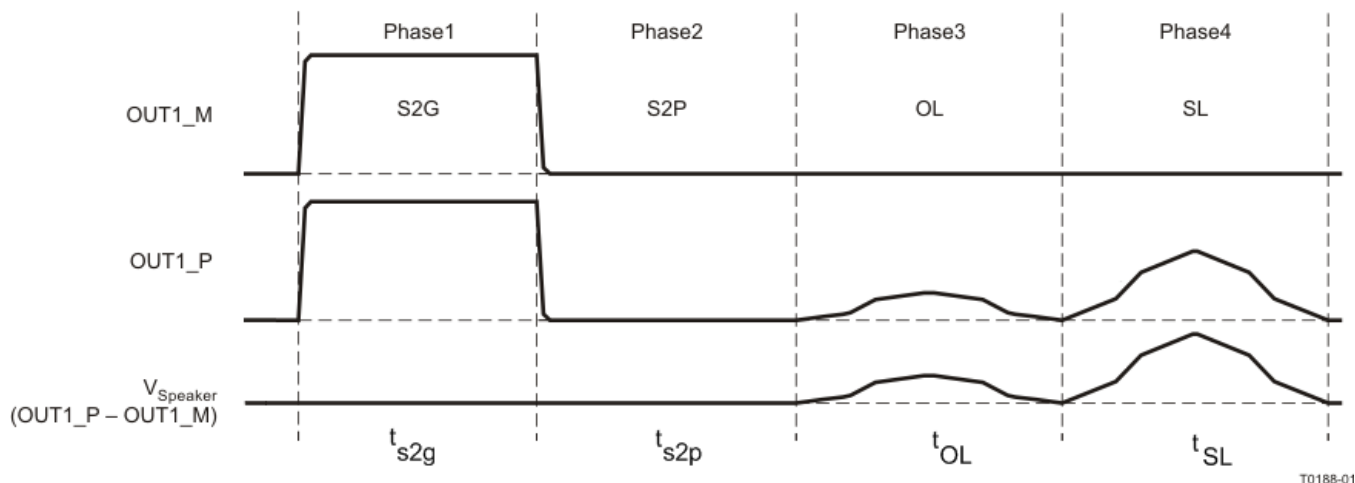
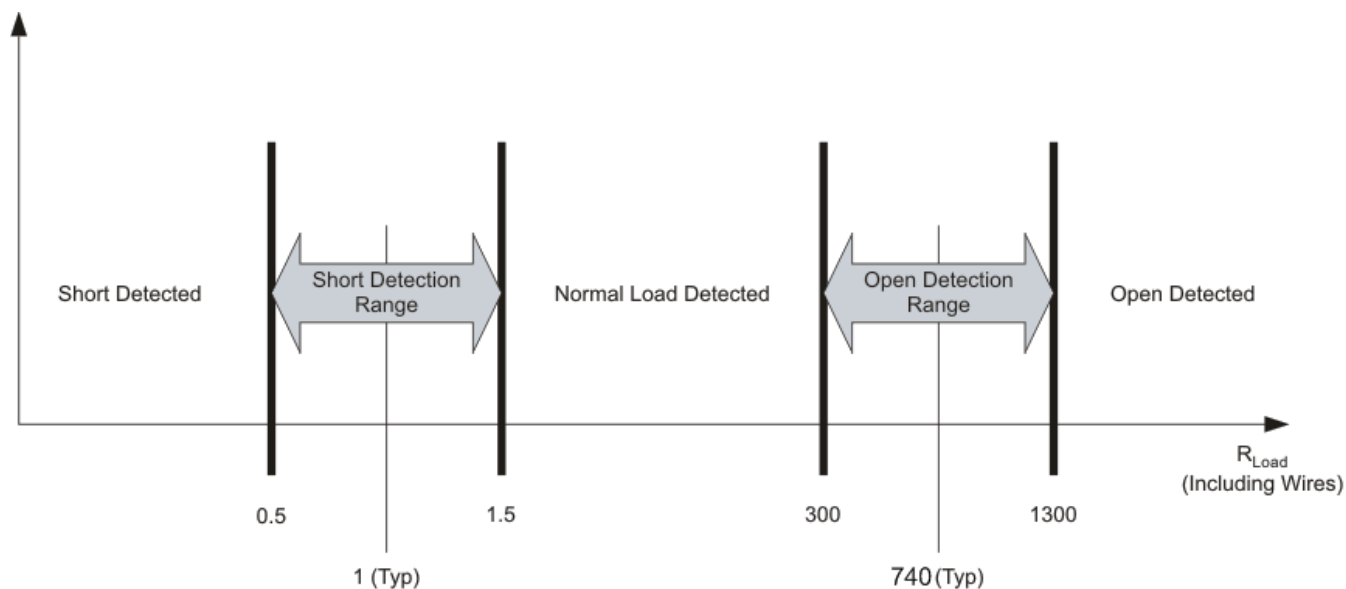

Figure 9. Load Diagnostics Sequence of Events
Figure 10. Open- and Shorted-Load Detection
Output Short and Open Diagnostics—The device contains circuitry designed to detect shorts and open conditions on the outputs. There are four phases of test during load diagnostics and two levels of test. All four phases are tested on each channel, all four channels at the same time. The diagnostics are performed as shown in Figure 9. Figure 10 shows the impedance ranges for the open-load and shorted-load diagnostics. With the default value of the MUTE capacitor the S2G and S2P phase take approximately 20 ms each, the OL phase takes approximately 100 ms, and the SL phase takes approximately 230 ms.
- **Undervoltage (UV) and Power-On-Reset (POR)**—The undervoltage (UV) protection detects low voltages on PVDD, AVDD, and CP. In the event of an undervoltage, the FAULT pin is asserted. Power-on-reset (POR) occurs when PVDD drops low enough. Recovery from a POR event is the same as a transition from standby to play mode.
- **Overvoltage (OV) and Load Dump**—The OV protection detects high voltages on PVDD. If PVDD reaches the overvoltage threshold, the FAULT pin is asserted. The device can withstand 50-V load-dump voltage spikes. Also depicted in this graph are the voltage thresholds for normal operation region, overvoltage operation region, and load-dump protection region. Figure 9 shows the regions of operating voltage and the profile of the load dump event.